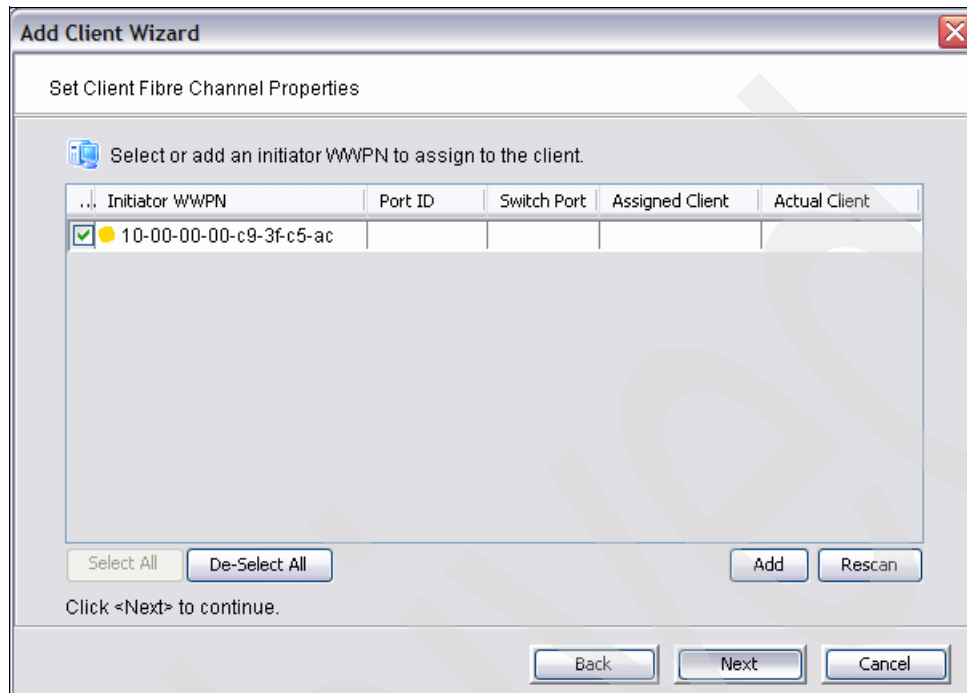

Figure 5-46 Add Client Wizard: Selecting the WWPN
3. In the Set Client Fibre Channel Properties panel (Figure 5-46 on page 103), select the WWPN of the client, and the WWPN of the Fibre Channel host bus adapter (HBA) that you want to add. The WWPN of the Fibre Channel HBA is printed on the card. If you want to know from i5/OS, see “System Service Tools” on page 276, which explains how to get WWPN from SST.